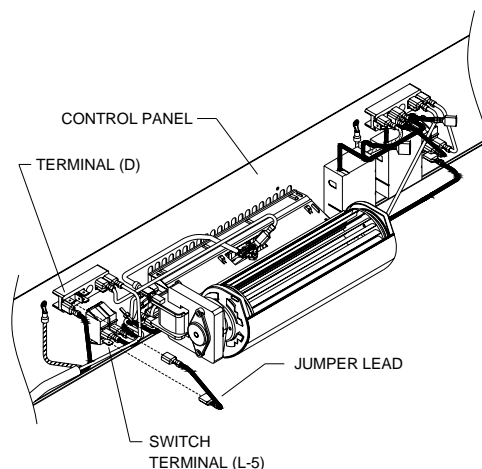

Figure 27 - Connecting Jumper Lead
16. Connect one end of the **Black** jumper lead, provided in the kit, to the power connection marked 'D' on the terminal block and the other end to switch terminal marked 'L-5' (see **Figure 27**).